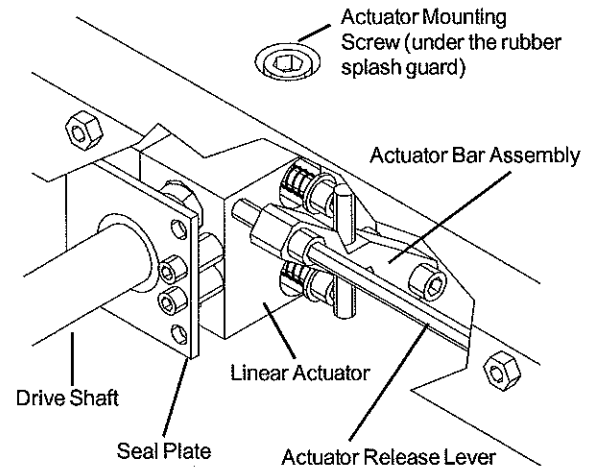

FIG. 22
- A. Crank the carriage forward further until you expose the actuator mounting screw (FIG. 22) on the top side of the carriage base. Remove the screw, to disconnect the actuator from the carriage.